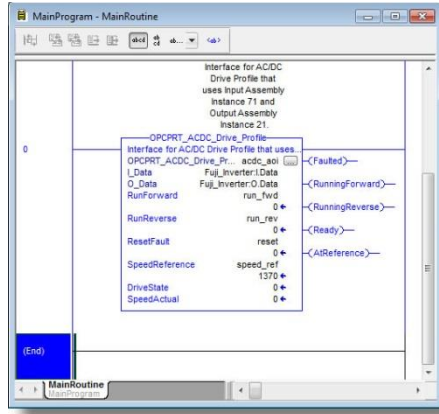

Figure 48: Configure AC/DC Drive Profile AOI
- 10) Edit the add-on instruction according to Figure 48.